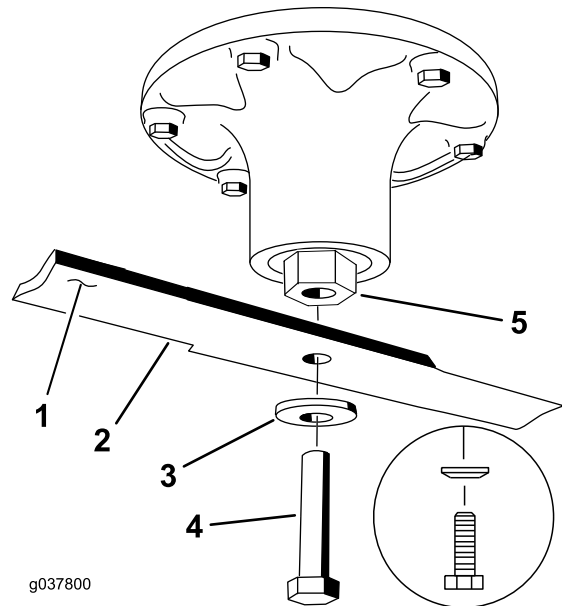

Figure 12
Important: The sail part of the blade (i.e., the turned-up section) must face the inside of the mower (Figure 12).
- To hold the spindle shaft, use an open-end wrench (1-1/2 inches) on the spindle-shaft end (Figure 12).
Note: The spring disk cone must be installed toward the bolt head (Figure 12).